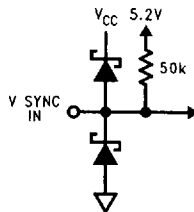

FIGURE 6
**Pin 8 - V SYNC IN:** This pin accepts AC-coupled V sync of either polarity. The pin is internally biased at 5.2V; its input resistance is approximately 50 kΩ. For best noise immunity, a resistor of 2 kΩ or less should be connected from the input side of the coupling cap to ground. See Figure 6 for the input schematic.